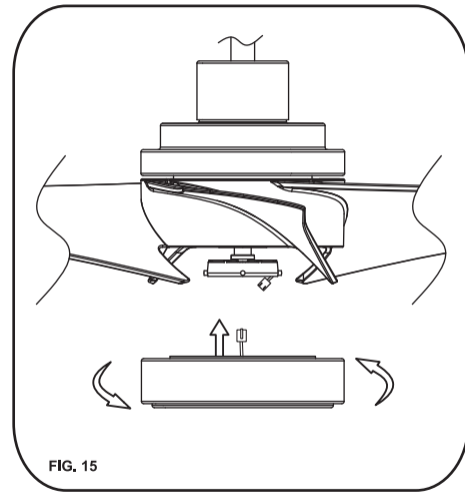

FIG. 15
Step 1. While holding the 20W LED assembly under your fan, firmly snap the wire connection plugs together. (Fig.15)
Step 2. Raise the 20W LED assembly to the lower portion of the fan and twist the LED assembly Clockwise until snug.(Fig.15)